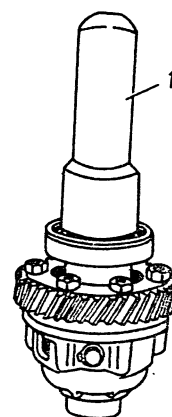

Fig. 3-41. Installing the Bearing on Differential Housing:
- press the bearings on the differential housing with installation tool 67.7853-9558 (Fig. 3-41);